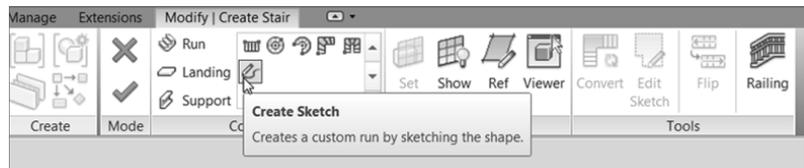

FIGURE 10.43: Click the Create Sketch button.
1. On the Modify | Create Stairs tab in Sketch Mode, click the Create Sketch button, as shown in Figure 10.43.